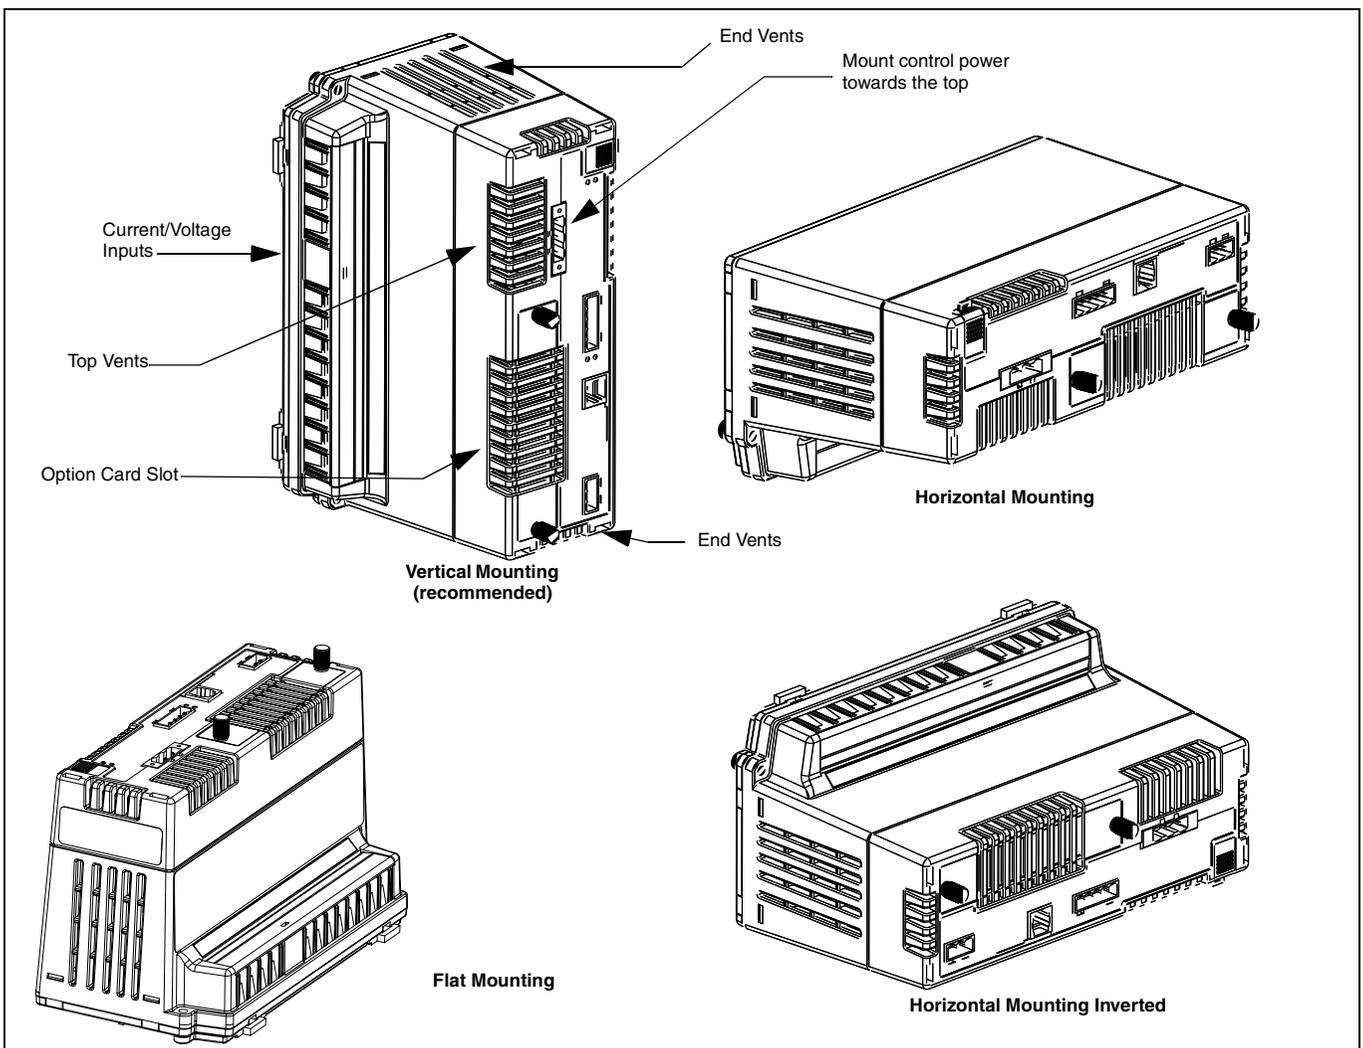

Figure 4–3: Possible ways to orient the circuit monitor
Recommended mounting orientations are shown in Figure 4–3. When choosing a mounting location, consider the following points:
- Allow for easy access to all parts of the circuit monitor. Allow extra space for all wires, fuse disconnects, shorting blocks, accessories, or other components. Make sure to route the wires so that they do not cover the option card slot, or cooling vents on the circuit monitor. Refer to Figure 4–4 on page 17 for required clearances.
- For European Community (CE) compliance, see “Required Protection for CE Compliance” on page 32.
- Provide the clearances around the circuit monitor as illustrated in Figure 4–4 on page 17.